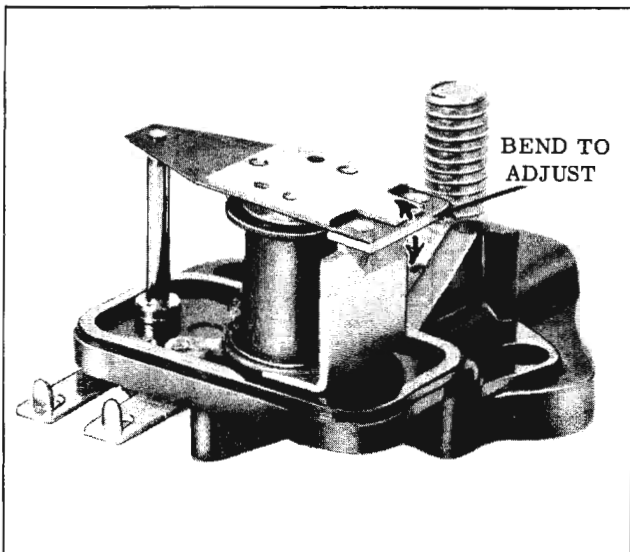

Fig. 14-56 Adjusting Horn Relay Closing Voltage
4. Slowly decrease the resistance until horn relay points close. Closing voltage should be 1.50 to 9.5 volts. If voltage is outside this range, adjust to 6.5 volts by bending armature spring post down to increase the voltage or up to decrease the voltage. (Fig. 14-56)